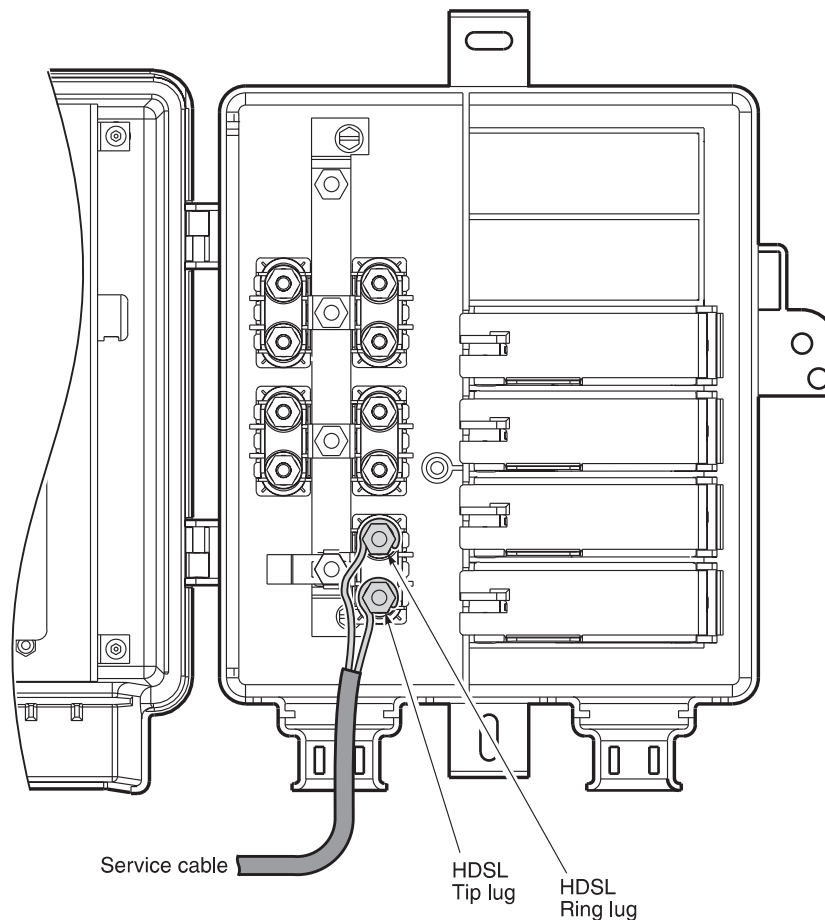

Figure 8. Attaching the HDSL Tip and Ring Wires
- 3 Loosen only the top nut on the Tip and Ring gas tube protection binding posts (see Figure 8).